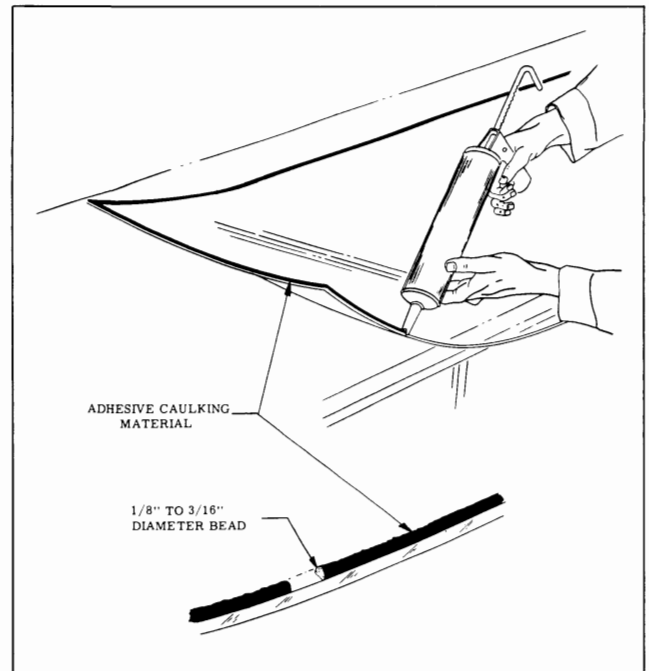

Fig. 11-10 Applying Adhesive Caulking - Short Method
11. Apply a smooth continuous bead of adhesive caulking material to inside surface of glass next to edge completely around glass (Fig. 11-10). Material should be 1/8" to 3/16" in diameter.